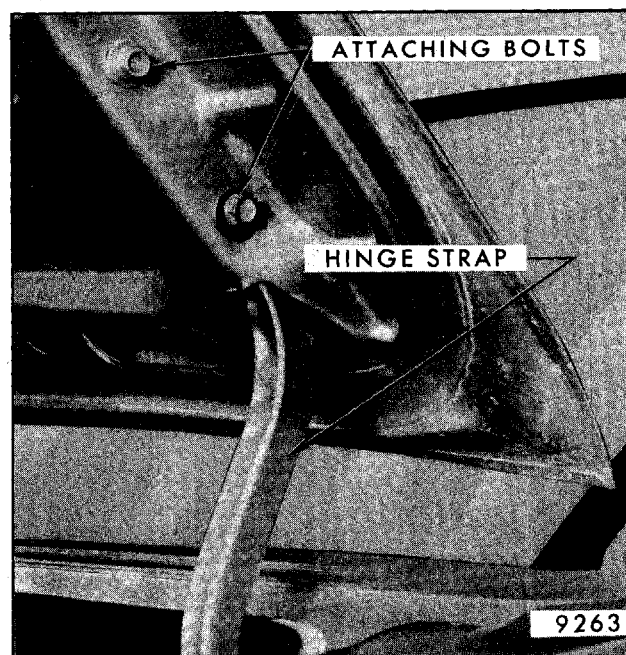
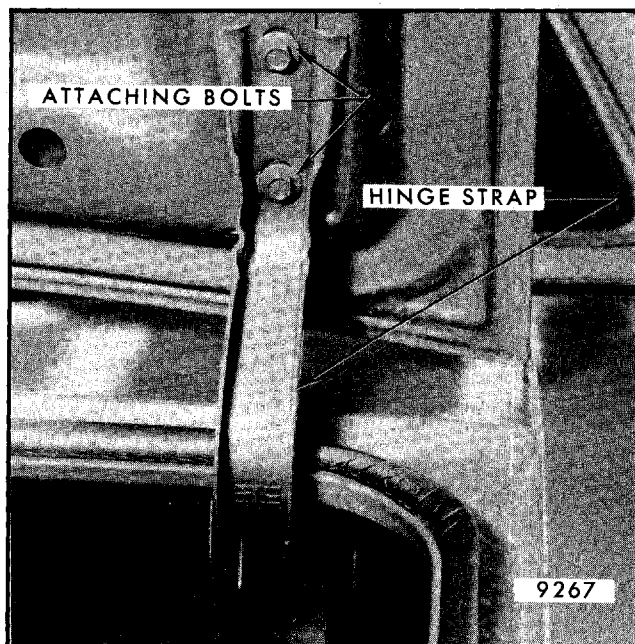

Fig. 7-2 A, B, C Hinge to Lid Attachment
Fig. 7-4-E, F, H-27, X-27,69 Style Rear Compartment Hinge to Lid Attachment
1. Fore and aft adjustment of the lid assembly is controlled by the hinge strap to lid attaching bolts. To adjust lid, loosen hinge to lid attaching bolts and shift lid to desired position; then tighten bolts. All adjustments for the A, B, C styles are made at lid to hinge attachment locations (Fig. 7-2).
2. Up and down adjustment of the lid assembly on E, F, H-27 and X- 27,69 styles (Fig. 7-4) is accomplished by placing shims between the hinge strap and the lid assembly and by raising or lowering the rear compartment lid lock striker. (For adjustment of striker, refer to Rear Compartment Lid Lock - Adjustments.)
4. While helper supports lid, remove attaching bolts securing hinges to lid and remove lid (Fig. 7-4 depicts typical E, F, H-27 and X-27,69 body hinge. Fig. 7-2 depicts typical A, B, C hinge).